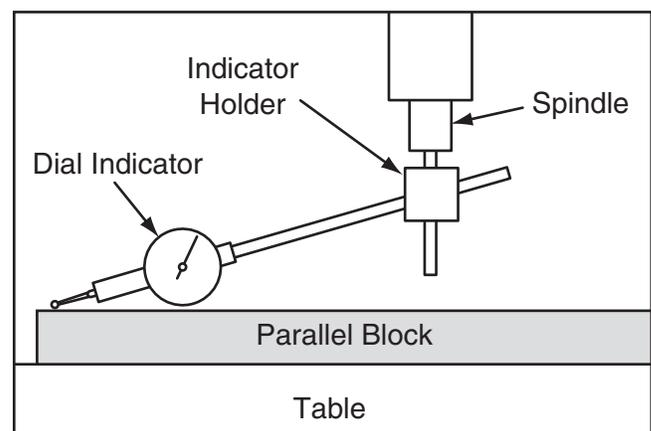

Figure 77. Dial indicator mounted.
4. Install indicator holder into spindle or onto quill, then mount indicator onto it so that the point is as parallel to the block as possible (see the illustration in **Figure 77** for an example).